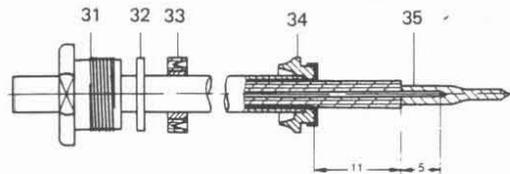

Fig. 9
- 9.2 Push nipple (31), washer (32), seal (33) and fixing bushing (34) on onto the cable as per Fig. 9. The inner rim of bushing (34) should lie against the cut end of the cable sleeve.
- 3 Bend the screening outwards and around the fixing bushing (34). Cut it off neatly as shown in Fig. 9.